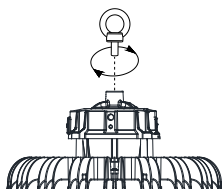

Figure 3
1. Please screw the lifting ring into the high bay light fixture, then tighten firmly. (Figure 3)